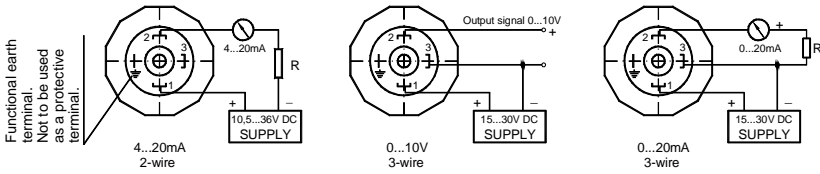

Fig.1a. Wiring diagram for PCE-28, PRE-28 transmitters and PCE-28P probe (Not applicable to Ex version)
The methods of earthing the transmitters are shown in figures 1a, 2.
**12.5.1.** The **PCE-28P** probe should be connected as shown in figure 1a.